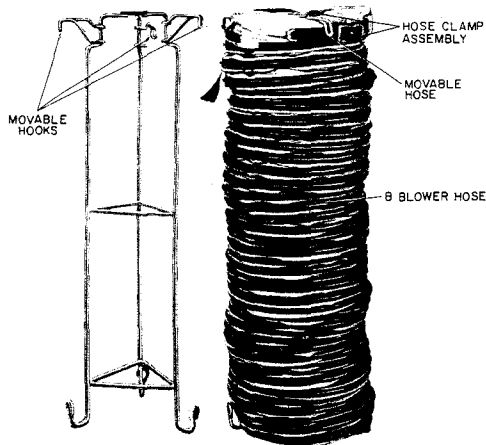

Fig. 3—B Blower Hose Carrier Assembly
2.03 The B Blower Hose Carrier Assembly (Fig. 3) is provided as a convenient means for storing and transporting the B Blower Hose.